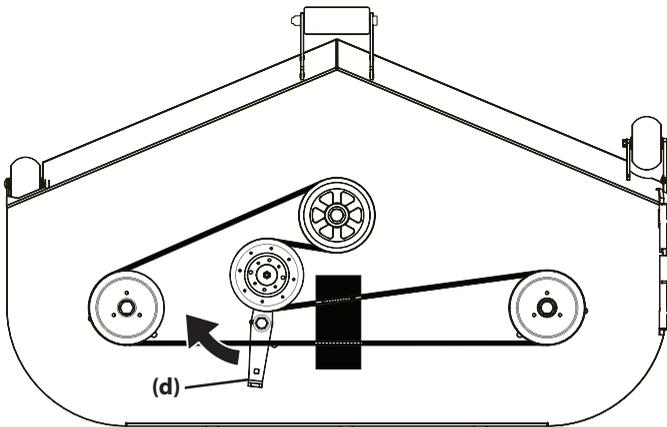

Figure 40
4. Using a 1/2" (12.7 mm) drive insert the end into the 1/2" (12.7 mm) square opening in the deck idler assembly (d) and rotate the deck idler assembly clockwise (Figure 40).
6. Route the new belt as shown in Figure 40. Then reinstall the deck and PTO belt as instructed on page 25.